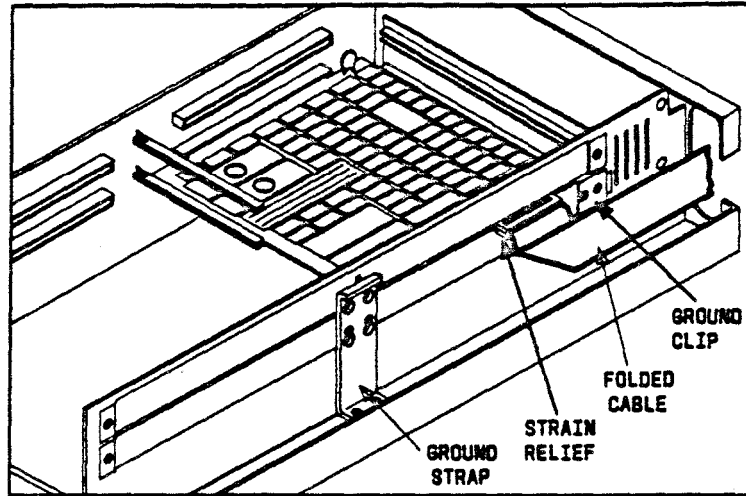
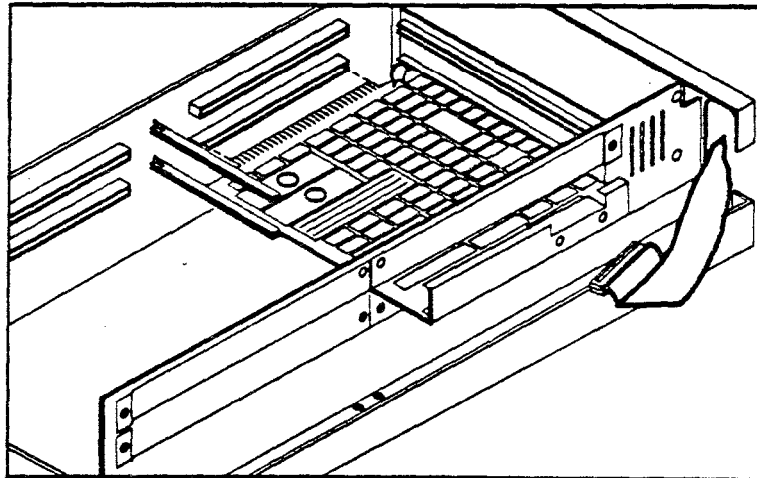

Figure 4-4. Installed CTC/XDC Feature Card
Figure 4-5. CTC/XDC Feature Card With Cable Removed
**Note:** Before you can slide the card out, you need to remove the ground strap and the ground clip (Figure 4-4).
After sliding the card out, loosen but do not remove the two strain relief securing screws that are located in the holes below the cutout on the faceplate of the card. Unplug the cable from the card and slide the card back into the slot. (See Figure 4-4 and Figure 4-5.)